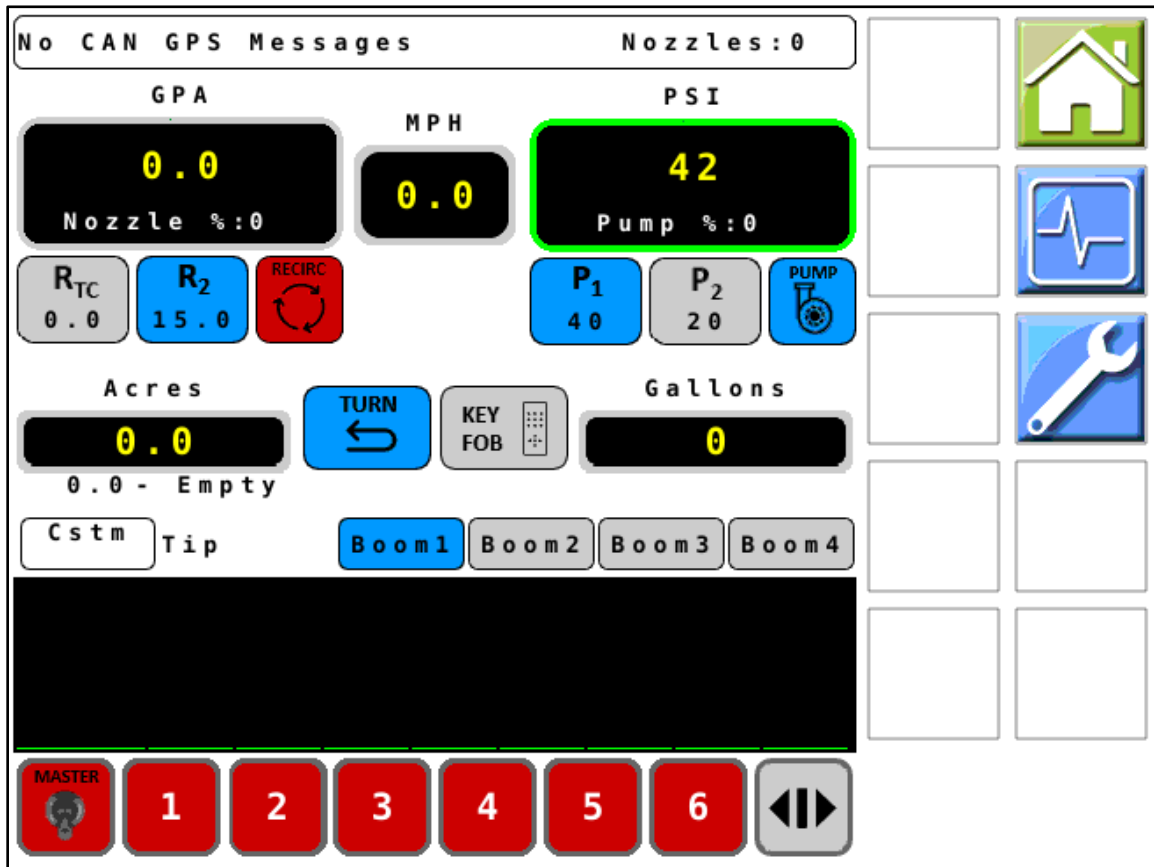

Figure 5 — Key Fob Verification
- Figure 5: Tap the **Home** icon  to return to the home screen.